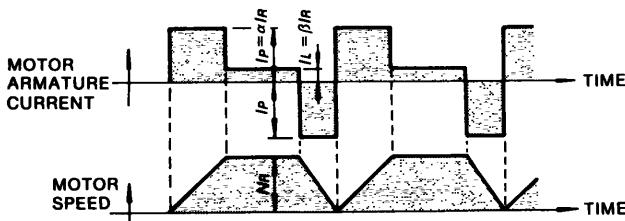

Fig 4.5 Timing Chart of Motor Armature Current and Speed
- When the motor accelerates, runs at constant speed, and decelerates in a continuing cycle without being at standstill (Fig 4.5)
The timing chart of the motor armature current and speed is as shown in Fig.4.5. The allowable frequency of operation "n" can be calculated as follows.